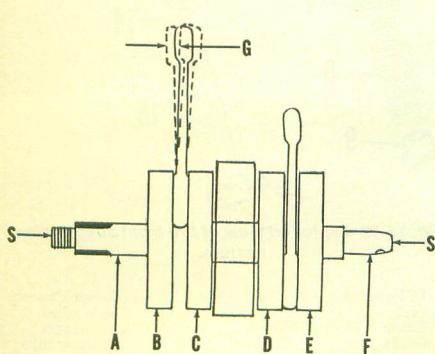

Fig. Y5-15—Refer to text to check crankshaft for correct assembly or wear.
should be disassembled **ONLY** if required tools are available to correctly check and align the reassembled crankshaft. If side shake (G—Fig. Y5-15) at piston pin end of connecting rod exceeds 2MM (0.08 in.), the connecting rod, crankpin and lower bearing should be renewed. Shake (G) should be 0.8-1.0MM (0.032-0.039 in.). Side clearance of connecting rod between the crankshaft counter weights can be measured with a feeler gage. Side clearance should be 0.1-0.3MM
(0.0039-0.012 in.). With crankshaft supported between lathe centers (S—Fig. Y5-15), maximum eccentricity when measured with dial indicator at points (A & F) should not exceed 0.03MM (0.0012 in.) and should not exceed 0.06MM (0.0024 in.) at points (B, C, D & E).